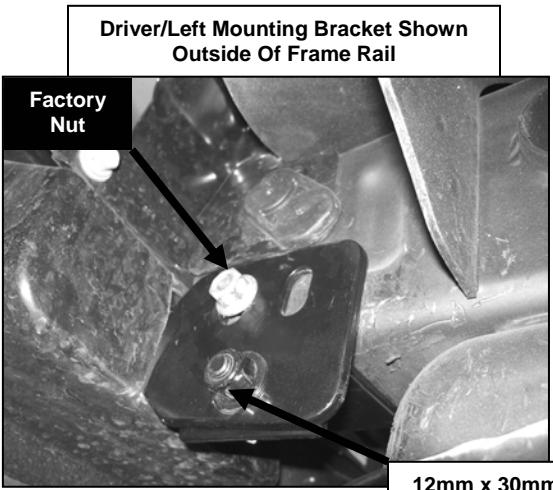

Figure 2
8. From the rear side of front bumper, insert (1) Mounting Bracket trough tow hook cavity and mount it on the outer side of driver/left frame rail (Figure2).
9. Insert (1) Tube Spacer into front of driver/left side frame rail and align it with front tow hook mounting location. While holding Tube Spacer in place insert factory tow hook bolt through Frame Bracket, frame, Tube Spacer, and Mounting Bracket. Secure it with factory nut. Do not tighten at this time